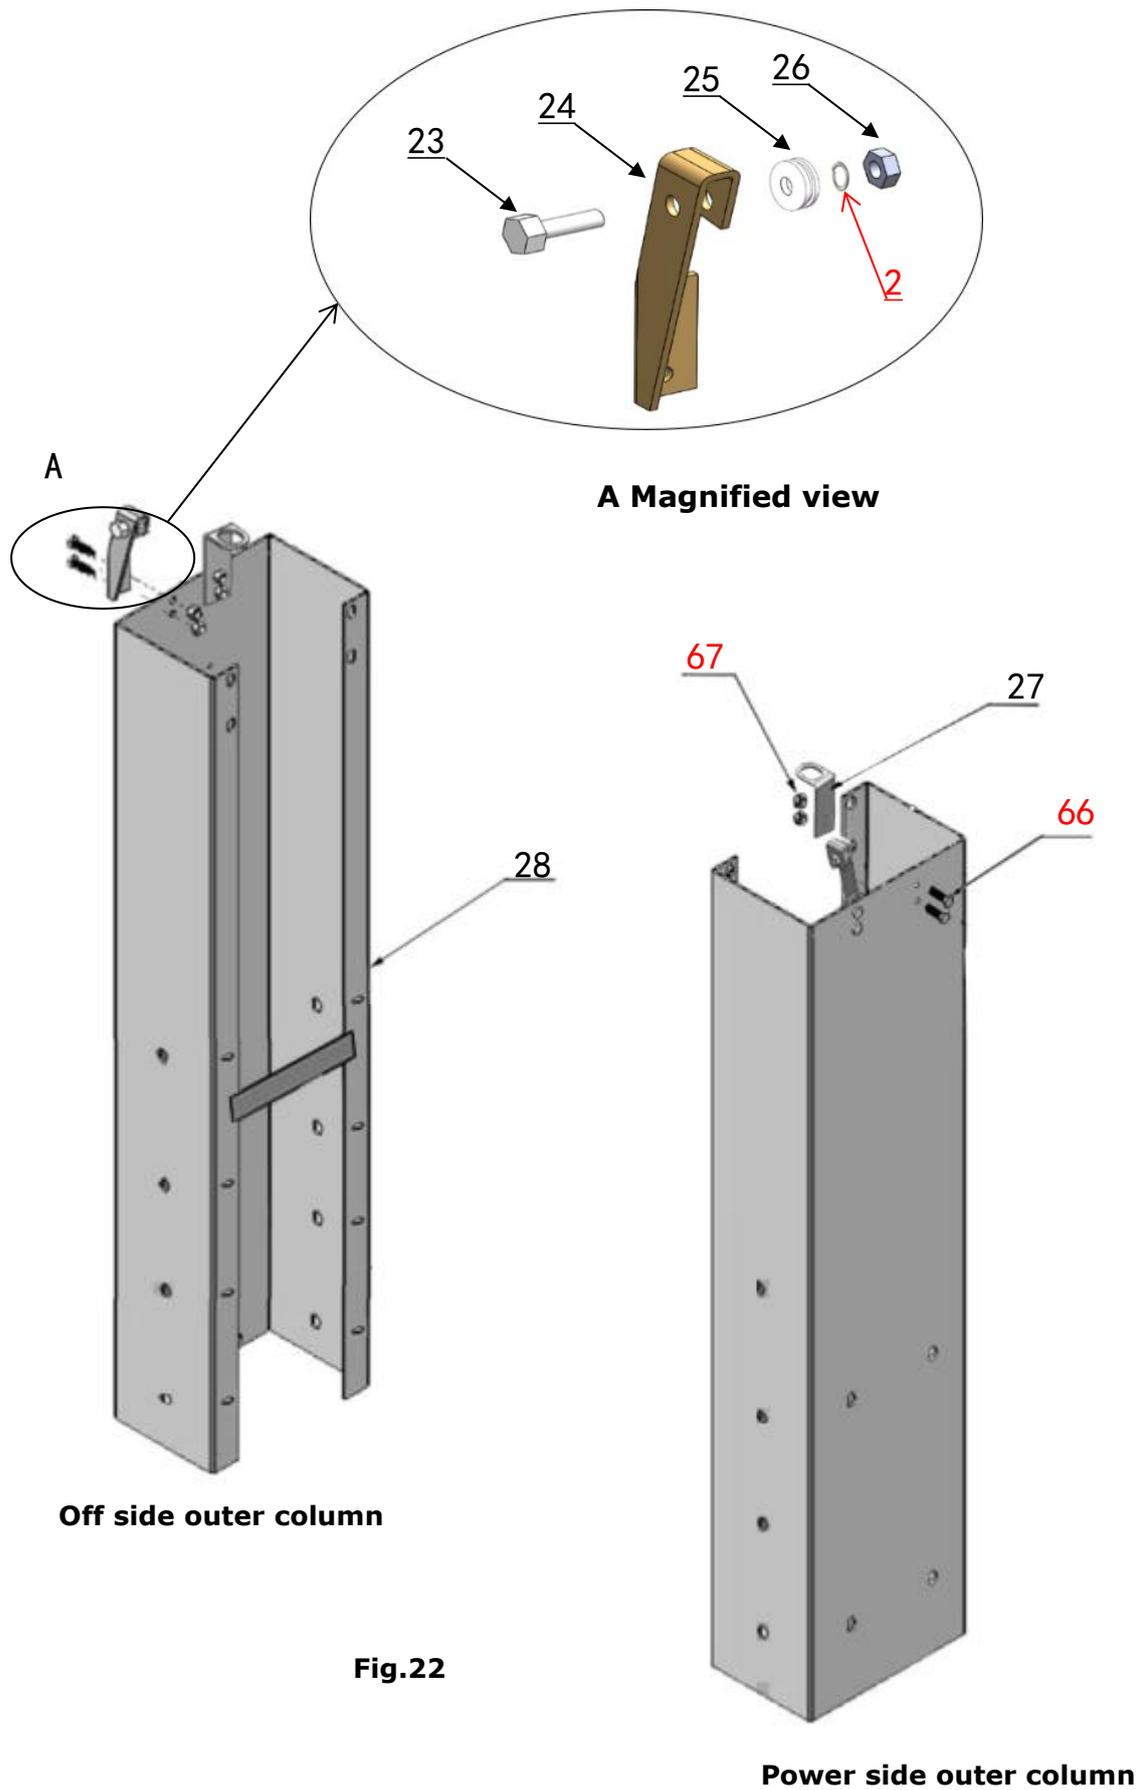

Fig.22
2. OHX-10H installation of outer column parts. Fig. 22